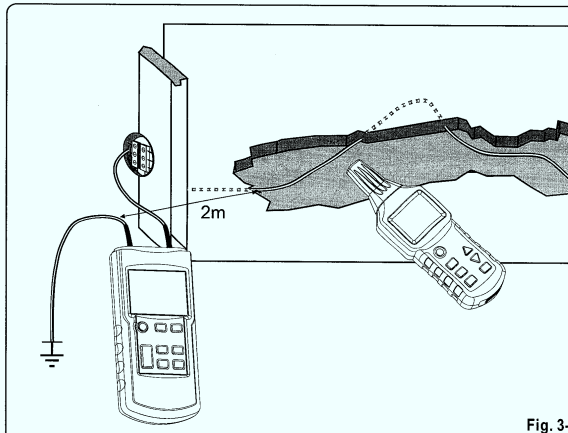

Fig. 3-1-9
- > Connect the transmitter in a way shown in Fig.3-1-9;